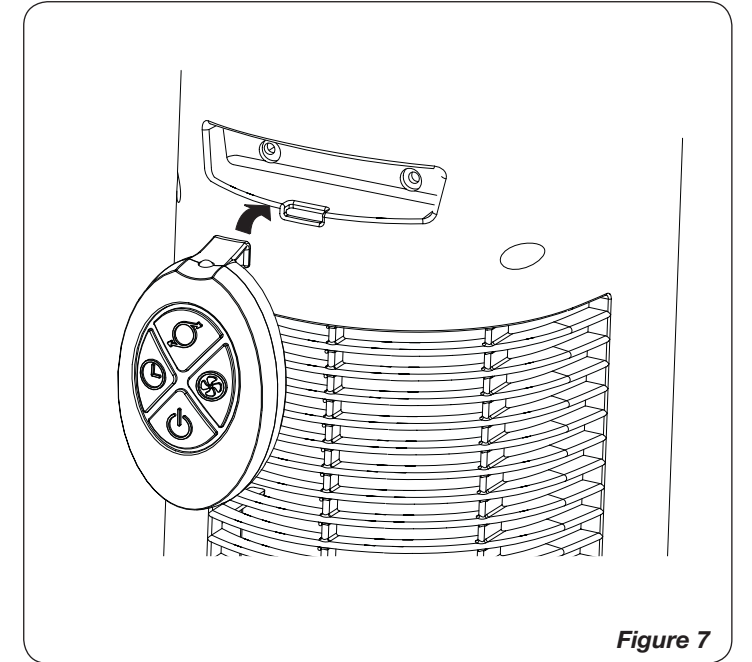

Figure 7
4. Remote control hook is located on back of Fan. (Figure 7)